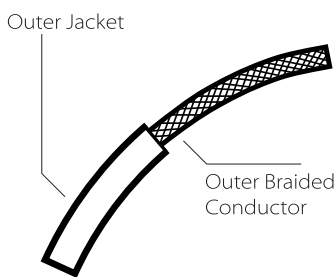

Fig. 1
- f. Carefully place connections in canopy (G).
6. Slide canopy (G) onto nipple (Q) and secure with canopy nut (R). (Figure 1)
7. Adjust the steel cable (C) or power cords (F) to level the fixture (B)
8. Slide the cable guide (M) to desired position by using the slotted screwdriver to loosen the set screws (N). Tighten set screws to set.
1. Make a 1" slice along the length of the cord's outer jacket (Fig. 1).
2. Carefully strip the outer jacket of the cord and keep the outer braided conductors intact (Fig. 1).